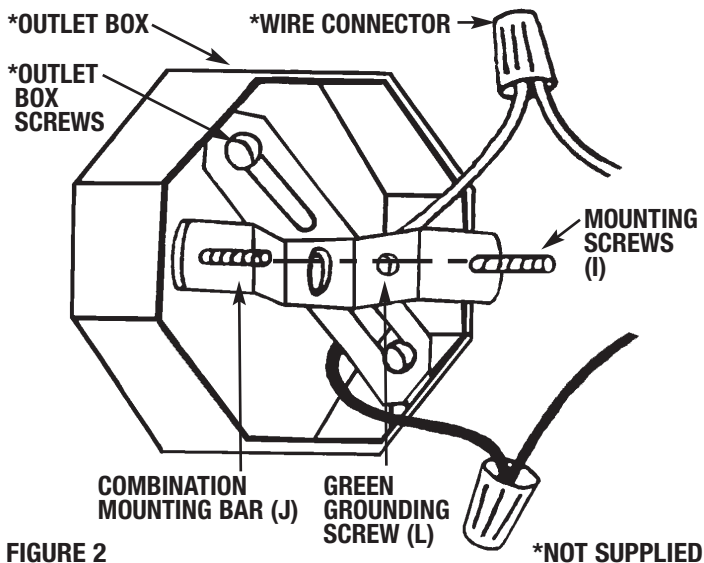

FIGURE 2
**GROUNDING INSTRUCTIONS:** The green grounding screw (L) is to be inserted into the hole with two raised dimples provided on the combination mounting bar (J). Wrap the ground wire from the fixture and the ground wire from the outlet box (bare metal or green insulated wire) around the green grounding screw (L) on the combination mounting bar (J) if uninsulated ground wire is on the combinations mounting bar (J), connect the ground wire from the fixture and the outlet box to it using a small wire connector (not supplied) (See Figure 2).